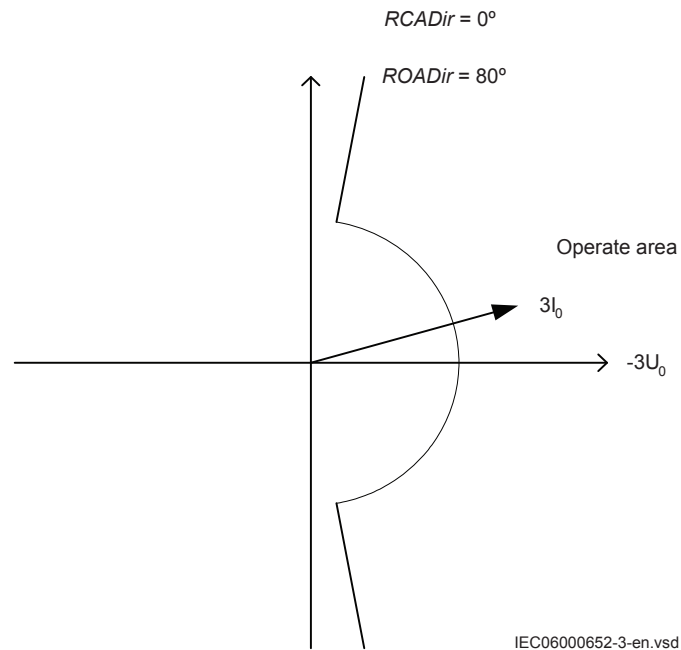

Figure 15: Example characteristic
4. Compare the result with the set values, refer to figure 15 for example characteristic.